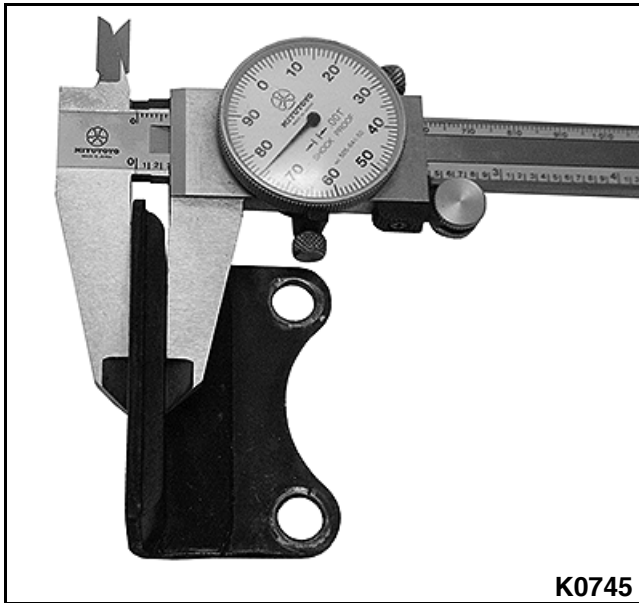

Figure 3-161
1. Using a caliper, measure the damper thickness. See Figure 3-161.